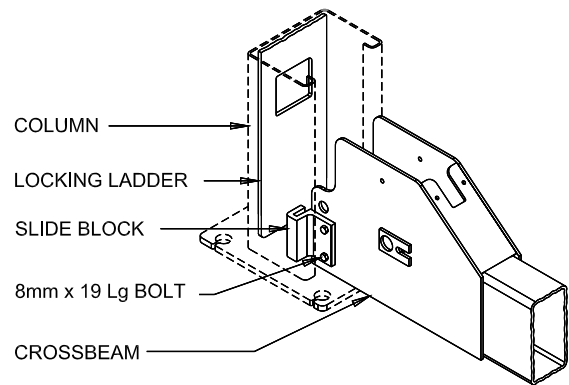

Fig 8 – Slide Block Installation
- 15) Slide power side column onto cross beam until the 8mm threaded holes in the side of the beam are just exposed. Position slide blocks as shown in Fig 8 and attach with M8 x 16mm bolts (apply thread locking compound before installing).